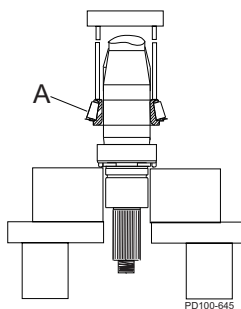

Figure 202 - Press Lower Cone onto Shaft
3. Lift the lower cone and roller assembly (Figure 202, item A) out of the bearing stack and place it on the shaft with the radius facing down. Press it onto the shaft until it is seated against the shaft shoulder. **Press only on the inner cone.**